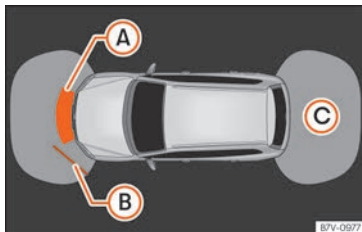
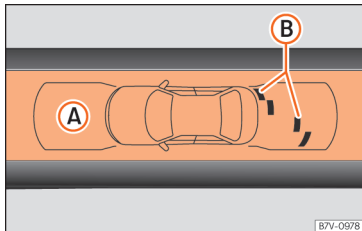

Fig. 273 On-screen OPS display: **A** has detected an obstacle in the collision zone; **B** has detected an obstacle in the segment; **C** zone recorded behind the vehicle.
Fig. 274 On-screen OPS display: **A** area recorded in front of the vehicle; **B** an obstacle has been detected in the segment.
The image displayed represents the super-vised zones in several segments. As the vehicle approaches an obstacle, it approaches the displayed vehicle segment »» Fig. 273 (B) and »» Fig. 274 (B). Ultimately, when the second-to-last segment is shown, the collision area has been reached. **Stop the vehicle!**